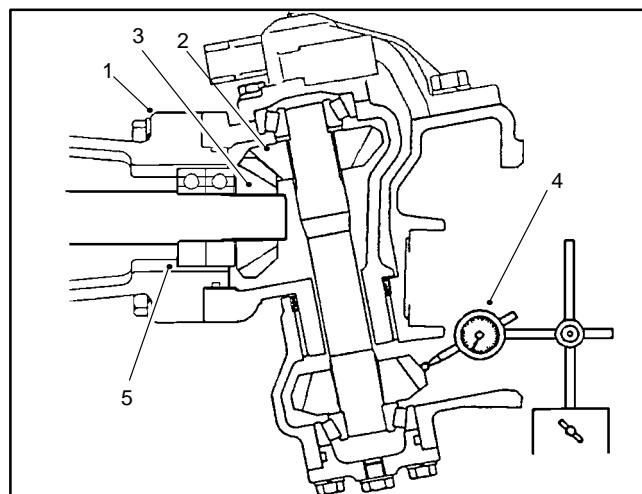

Figure 20
7. Temporarily install the bevel gear case/axle case assembly on the axle support. Position a dial indicator at the teeths center. Prevent the axle from turning and measure the upper bevel gear to differential shaft gear backlash (Fig. 20).